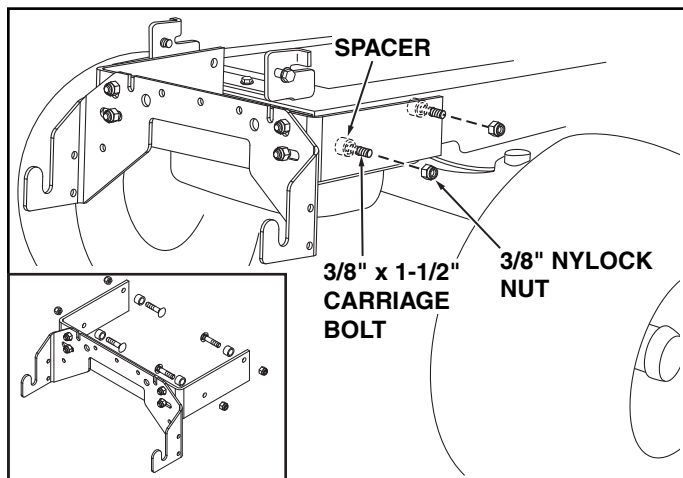

FIGURE 10
15. Assemble the frame mount bracket to the tractor frame using four 3/8" x 1-1/2" carriage bolts, spacers and 3/8" nylock nuts. The spacers go **between** the tractor frame and the frame mount bracket as shown in figure 10.